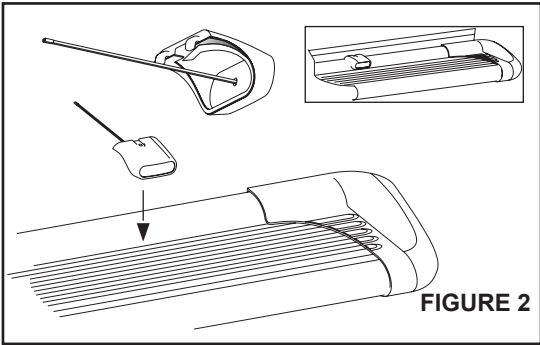
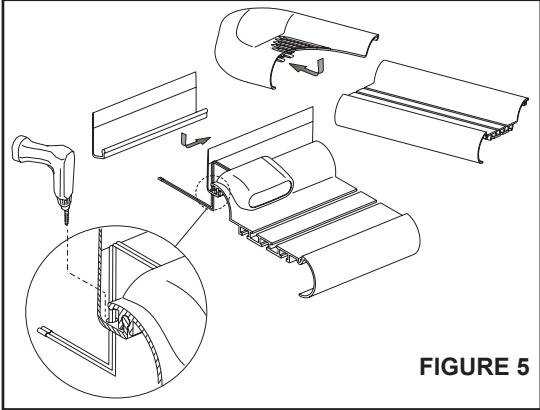

FIGURE 2
FIGURE 5
STEP 4. For Sure-Grip Running Boards, slide closure strip as shown. Set lights (if purchased) in appropriate location. Attach to Sure-Grip Running Board as shown. **SEE FIGURE 2.** Drill hole through plastic strip and run wires as shown. **SEE FIGURE 5.**